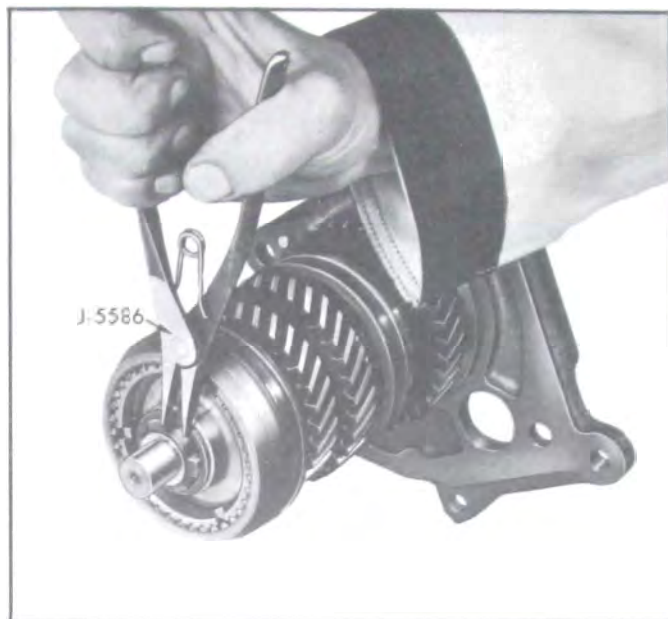

Figure 4-51—Removing Mainshaft Front Snap Ring
16. Remove mainshaft front snap ring (see fig. 4-51), and slide third and fourth speed clutch assembly, third speed gear and synchronizing ring, second and third speed gear thrust washer (needle roller bearing), second speed gear and second speed synchronizing ring from front of mainshaft.